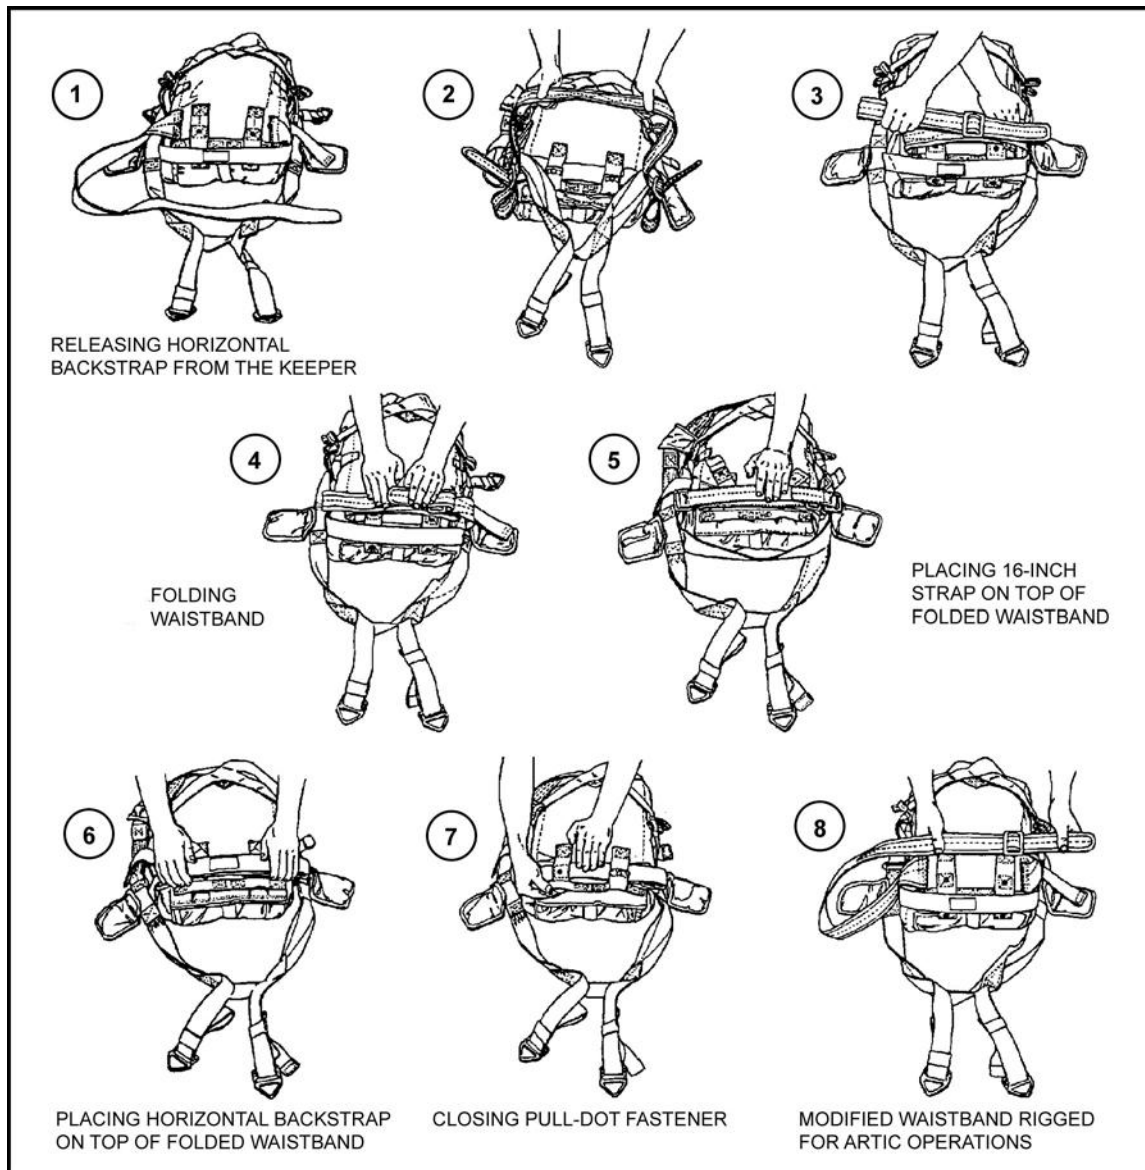

Figure 13-1. Modified waistband routed on parachute harness.
a. **Waistband.** A modified waistband strap is used in lieu of the standard waistband when parachuting with snowshoes or skis. The strap consists of two pieces: a 6-foot A-7A strap and a 16-inch strap with a buckle at each end. The skis or snowshoes are attached to the side of the jumper opposite the static line (to prevent fouling). The modified waistband allows the buckle for the quick-release fold to be located on the same (either) side with the snowshoes or skis (Figure 13-1, page 13-2). Tandem loads are dropped on a single lowering line. Rigging or lowering procedures are contained in this chapter. Under arctic conditions, most individual equipment is lowered during descent due to the weight.